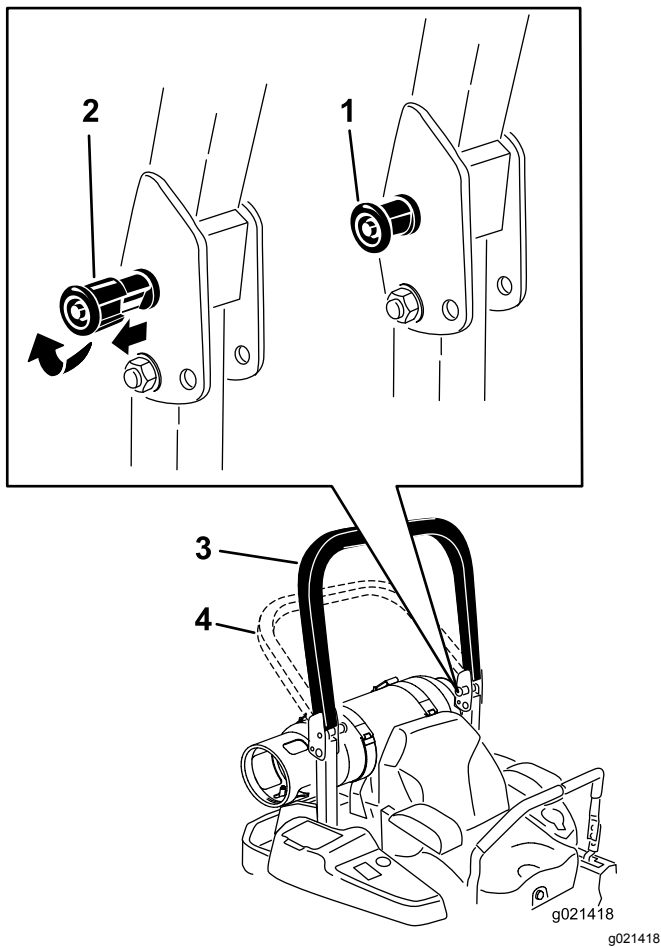

Figure 9
2. Pull both knobs out and rotate them 90° so they are not engaged (Figure 9).
3. Lower the roll bar to the down position (Figure 9).
4. To raise the roll bar, raise the roll bar to the operate position, rotate the knobs so that they move partially into the grooves (Figure 9).
5. Raise the roll bar to the full upright position while pushing on the upper roll bar and the pins snap into position when the holes align with the pins (Figure 9).